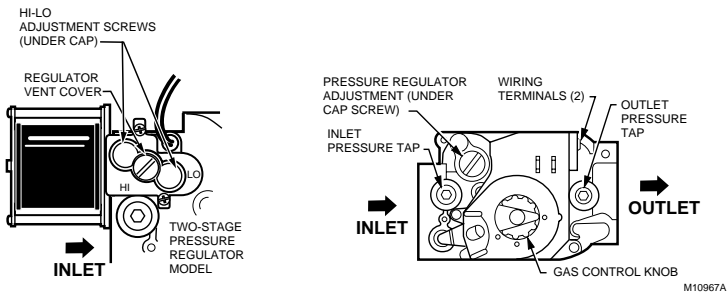

Fig. 6. Top view of gas control.
3. With main burner operating, check the control flow rate using the meter clocking method or check pressure using a manometer connected to the outlet pressure tap on the control. See Fig. 6.
Using a screwdriver, turn the inner adjustment screw (Fig. 6) clockwise  to increase or counterclockwise  to decrease the gas pressure to the burner.
3. With main burner operating, check the gas control flow rate using the meter clocking method or check pressure using a manometer connected to the outlet pressure tap on the gas control. See Fig. 6.
4. With main burner operating, check the gas control flow rate using the meter clocking method or check pressure using a manometer connected to the outlet pressure tap on the gas control. See Fig. 6.
- a. Remove the pressure regulator adjustment cap (Fig. 6).
a. Remove the pressure regulator adjustment cap (Fig. 6).